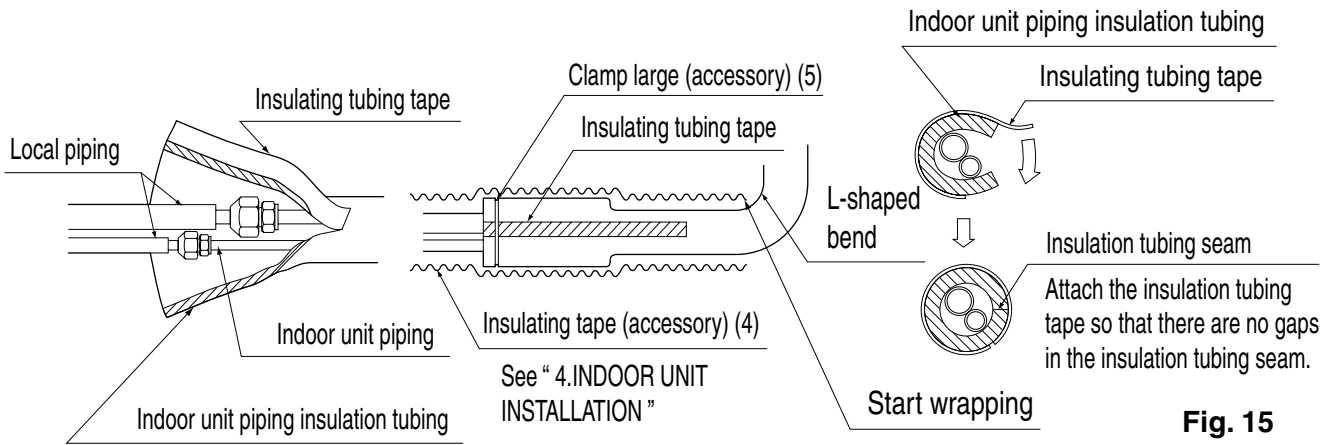

**Fig. 14**
2. Nitrogen should be set to 0.02 Mpa (0.2 kg/cm2) with a pressure-reducing valve if brazing while inserting nitrogen into the piping. (Refer to Fig. 14)